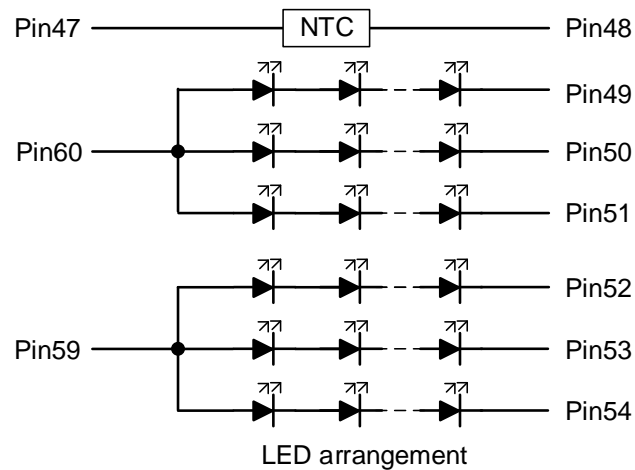

Fig 5.1
Note 1: As Fig. 5.1 shown, LED current is constant, (80) mA, controlled by the LED Input Voltage when applying 24.2 V.